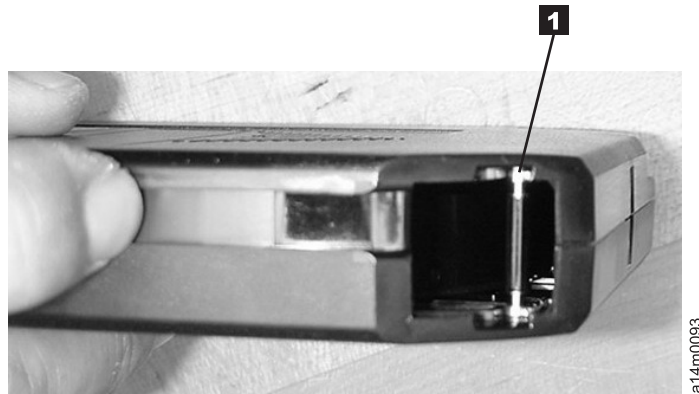

Figure 50. Leader pin in proper position in the 3592 Cleaning Cartridge (the cartridge door is manually retracted)
**Attention:** Insert only clean and undamaged cleaning cartridges into a tape system. Before you insert a cartridge into a drive or storage slot, inspect the cartridge for damage or debris. **Damaged or dirty cartridges can reduce system reliability and cause the loss of recorded data.** If debris appears on the cartridge, wipe the outside surfaces with a lint-free cloth lightly moistened with water. Do not allow any liquid to contact the tape. Ensure that all cartridge surfaces are dry and that the leader pin is in place (see **1** in Figure 50 on page 264) before you load the cartridge.
Ensure that all cartridge surfaces are dry and that the leader pin is in place (see **1** in Figure 50 on page 264) before you load the cartridge.